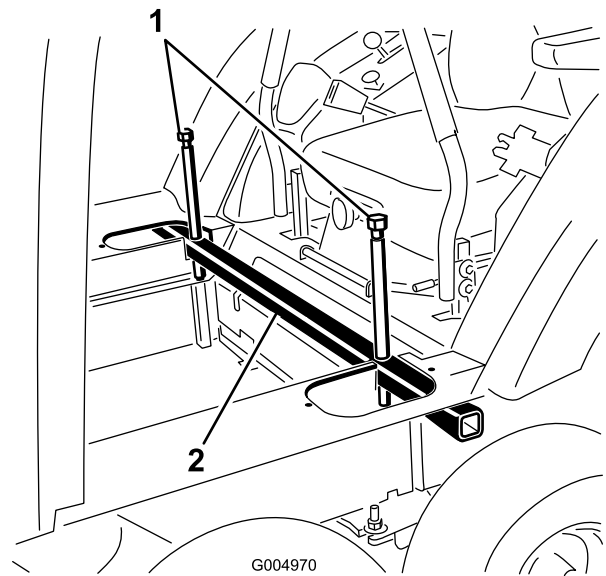

Figure 119
28. Loosen the jacking bolts and remove the cab jack tube from the cutouts in the cab floor (Figure 119).